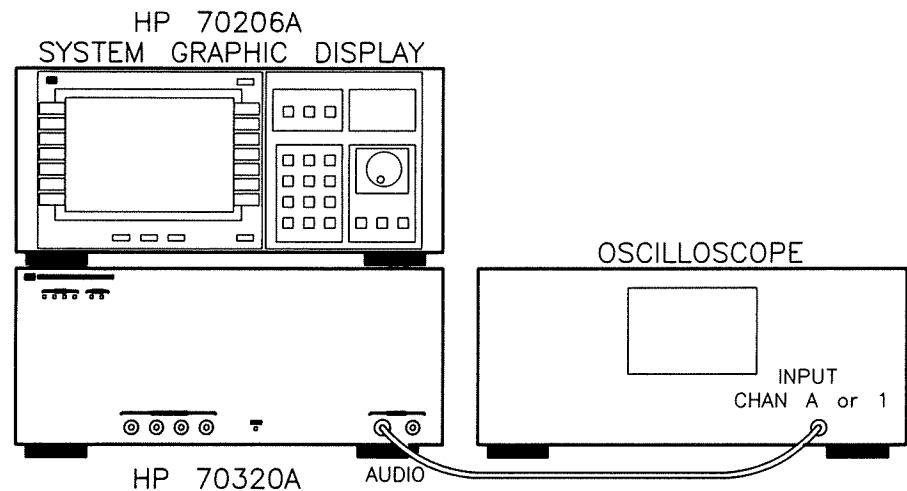

Figure D-1. Equipment Setup for the Quick Demonstration.
1. Connect the HP 70320A to the oscilloscope as shown in figure D-1. Turn on the equipment and make the following adjustments: